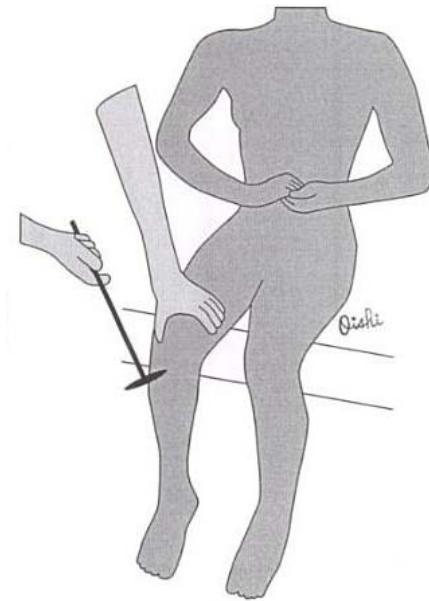

Figure 5: Jendrassik maneuver
3. Have the subject perform the Jendrassik Maneuver. To perform this maneuver, the subject must grip both hands together across their chest and attempt to pull them apart with maximum force while the knee jerk reflex is obtained (Fig. 5).